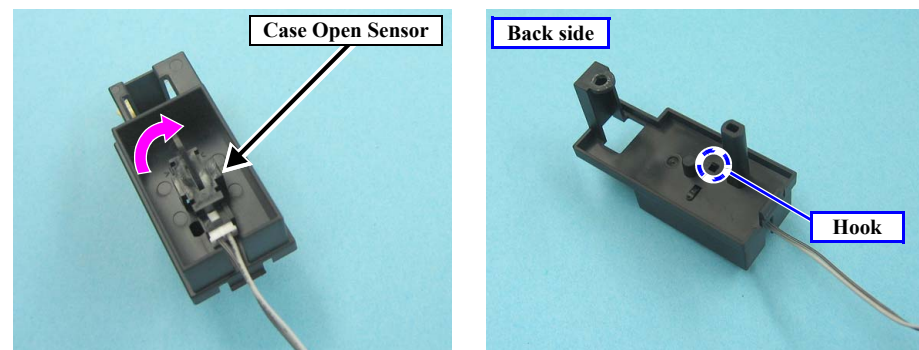

Figure 4-15. Removing the Case Open Sensor
4. Release the hook of the Case Open Sensor from the back side of the Case Open Sensor Assy, and remove the Case Open sensor in the direction of the arrow. (Fig. 4-15)